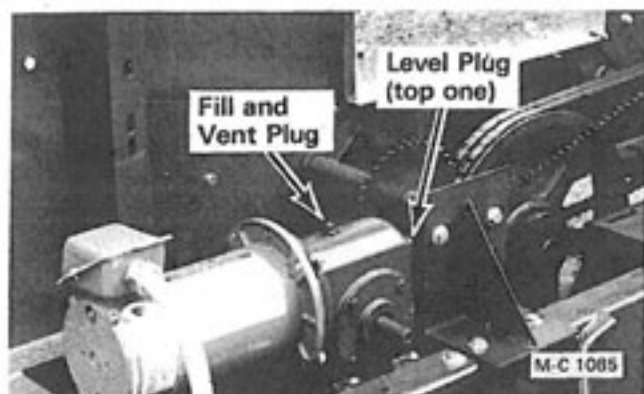

Figure 29
1. **SCR Drive Gear Box** - Remove the oil level plug (top one) on the end of the gear box, see Figure 29. The oil level should be even with the bottom of the hole. If not, remove the vent plug on top of the gear box and add Mobil SHC 634 oil or equivalent until it just runs out. Install the level and vent plug.